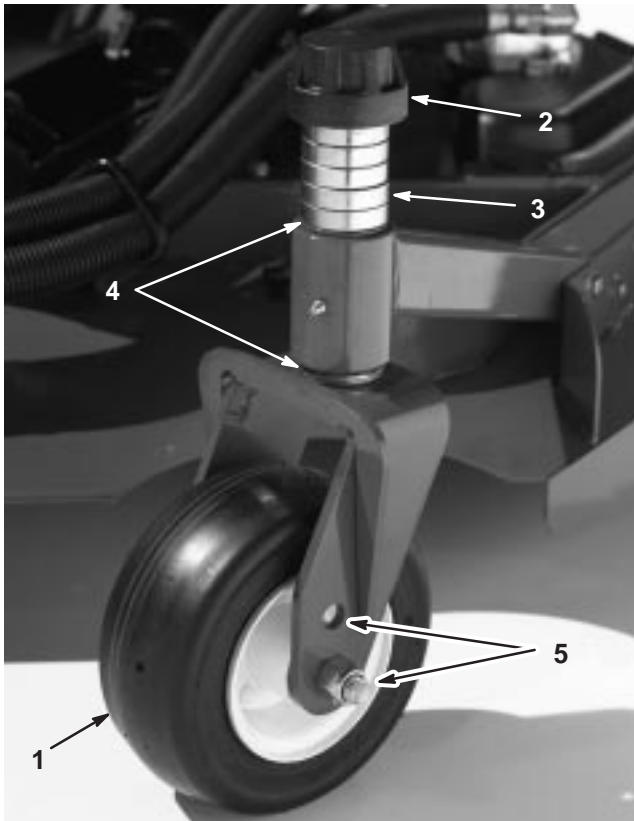

Figure 14
2. Position the castor wheel axles in the same holes in all castor forks (Fig. 14 & 16). Refer to the following chart to determine the correct holes for the setting.
- Position the castor wheel axles in the same holes in all of the castor forks (Fig. 14 & 16). Refer to the following chart to determine the correct hole for the setting.
- Remove the tensioning cap from the spindle shaft (Fig. 14) and slide the spindle out of castor arm. Put the two shims (1/8 inch) onto spindle shaft as they were